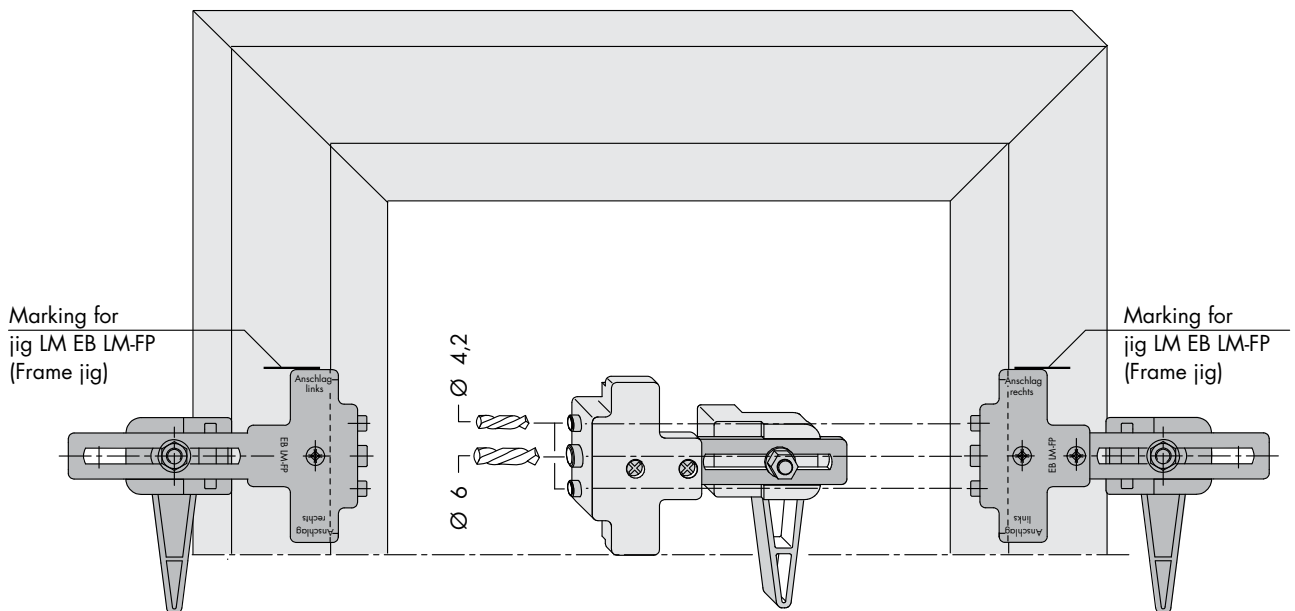

Figure 2
12. Position jig LM EB LM-FP and fix in place (see Figure 2).
13. Drill holes  $\text{Ø } 4.2$  and hole (6) (see Figure 2).